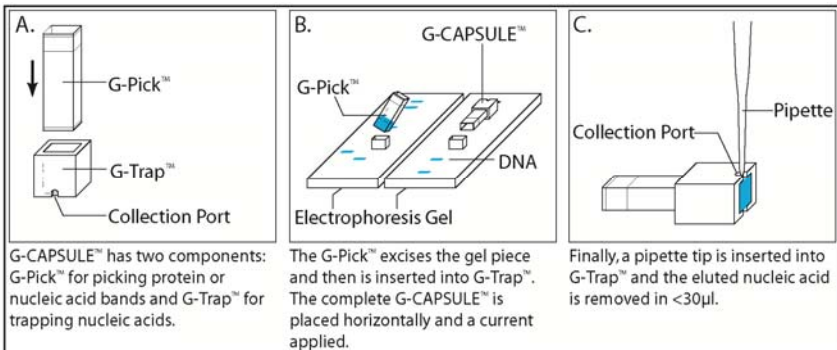

Figure 3: G-CAPSULE™ Scheme.
- Excising & Picking up a Gel Band:** Use G-PICK™ to punch out the gel band (Figure 3).